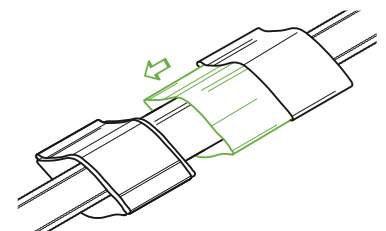

Fig. B12.2.8
8. Position the heat shrink band so that its centre is directly over the end of the Heat Shrink Sleeve (Fig. B12.2.8). Remove the protective foil from the inner surface of the heat shrink band.